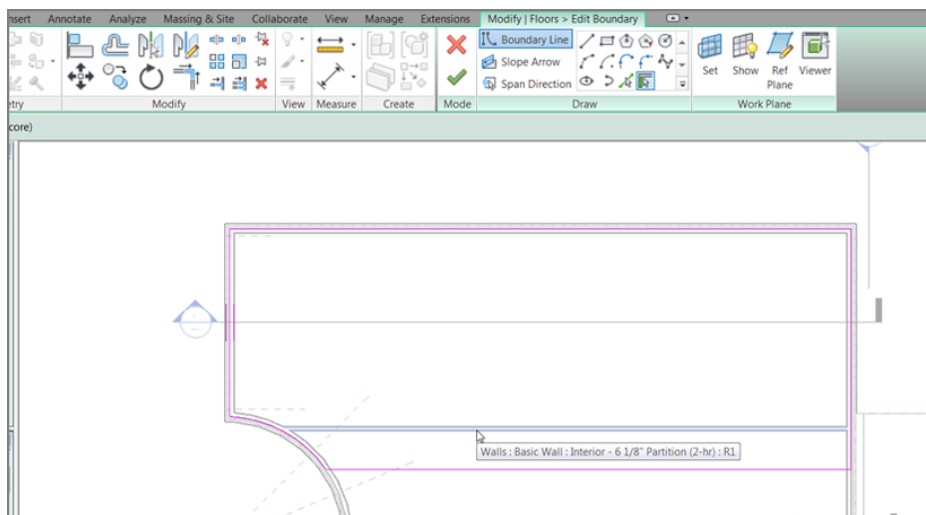

FIGURE 10.55: Adding the floor outline to the walls. Be sure to offset the line 5'-0" (1500mm) from the south wall. This will be the stair landing.
8. Pick the walls, and make sure the lines are set to the core centerline, as shown in Figure 10.55.
9. When picking the south wall, set Offset to 5'-0" (1500mm) in the Options bar (see Figure 10.55).